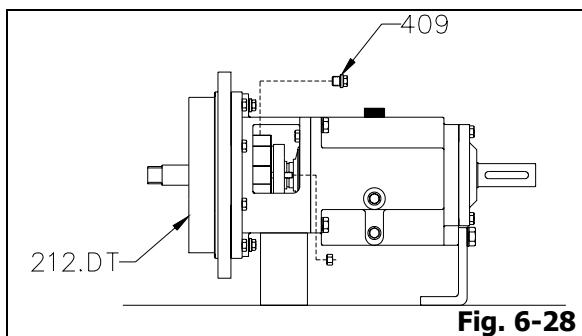

Fig. 6-28
- Remove all connection plugs (409) or/and piping adaptors from stuffing box cover (212.DT).
- Remove two (2) seal cover nuts from seal cover studs (Fig. 6-28).